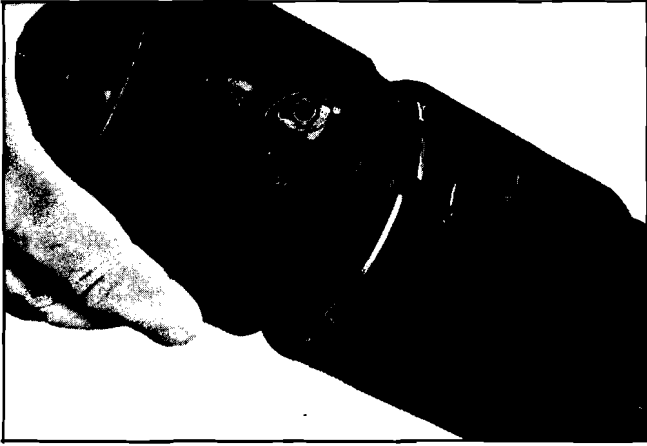

Fig. 9-17 Removing Upper Bearing Housing
10. Remove the four screws attaching the upper bearing housing to the jacket. Remove the upper housing assembly (Fig. 9-17).